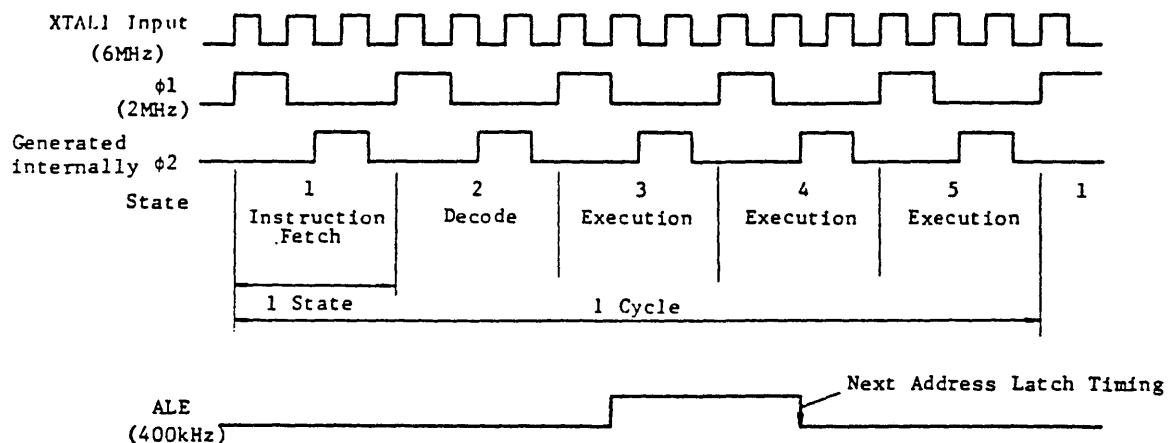

Fig. 4 Instruction Cycle Timing
(1) Instruction Cycle
- Fig. 4 illustrates its relationship with the clock input to CPU.
- ϕ_2 clock shown in Fig. 4 is derived to outside by ENTO CLK instruction.
(2) External Memory Access Timing